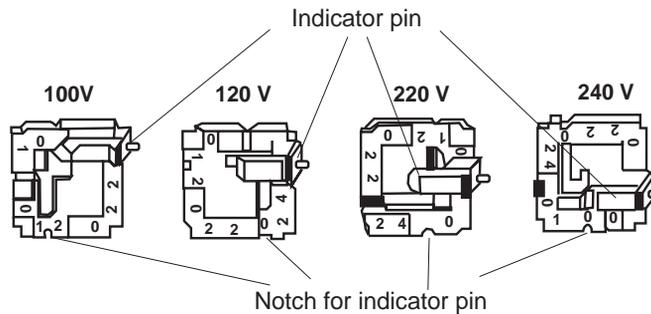

Figure 2-3 Voltage Selector Card
- The edge of the voltage card is labeled with four voltages (Figure 2-3). Position the voltage indicator pin on the opposite side of the card from the required voltage. Seat the indicator in the notch on the edge of the card.